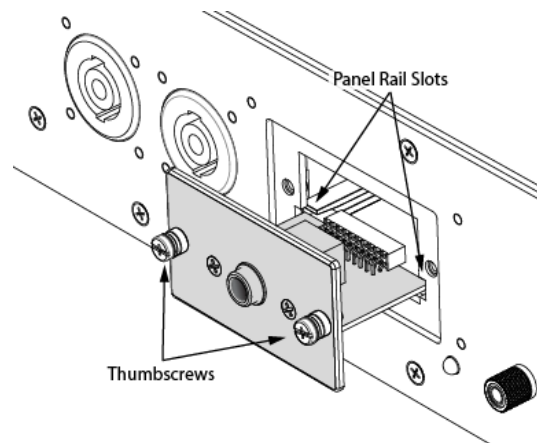

Figure 5
1. Loosen the two thumbscrews to release the connector panel from the APx517 chassis. (See Figure 5)
(See Figure 5)